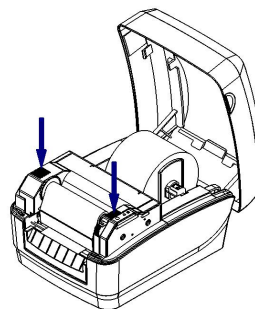

Figure 2.5.3
- 5) Press down the ribbon holder to clamp status and then close the top cover. (See figure 2.5.3)